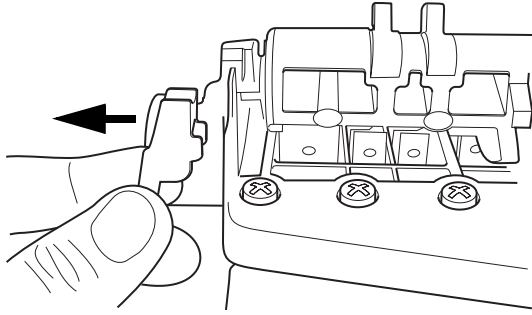

Figure 16
- Remove the yellow camshaft clip from the rear top plate hoop (Figure 16).